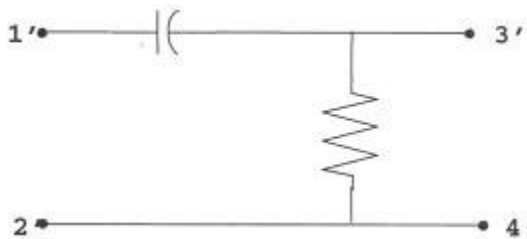

Figure 8-3 High-pass configuration
3. Using MATLAB, obtain a plot of the voltage transfer function vs. frequency for the network in Figure 8-3. This should be done on a log-log scale. From the plot, identify the network as to whether it is low-pass, high-pass, or band-pass filter network and determine the break frequency (frequencies)
6. Connect the high-pass circuit shown in Figure 8-3 with the elements values specified in part 3 of the prelab. Repeat steps 2 to 4 of the lab procedure.